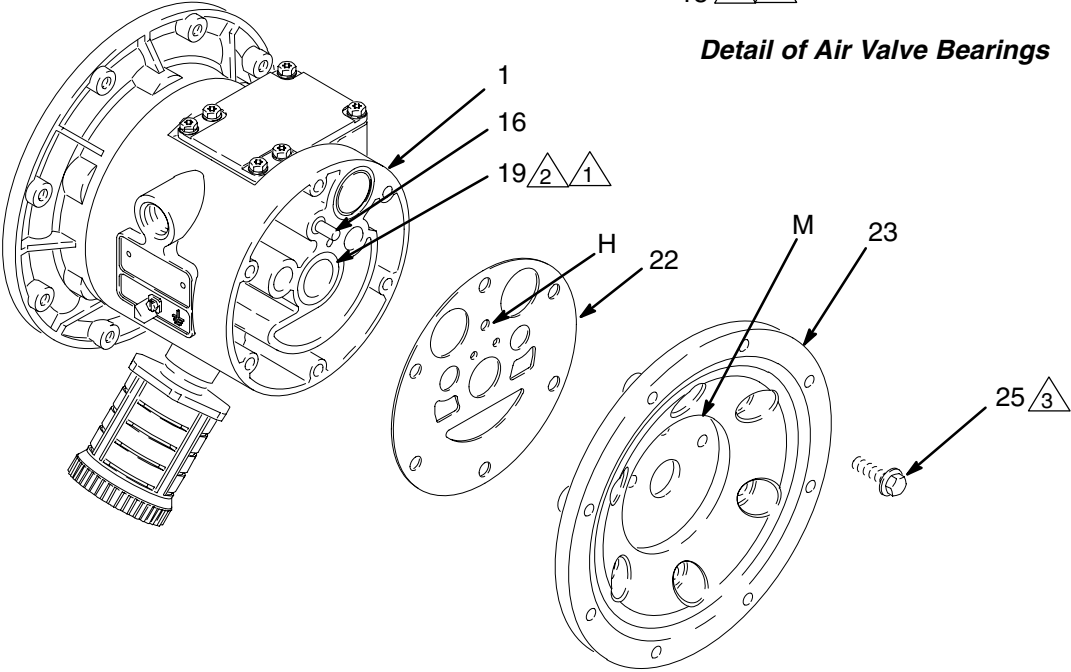

Fig. 15
5. Using a 10 mm socket wrench, remove the screws (25) holding the air covers (23) to the center housing (1). See Fig. 15.
1. If removed, install the shaft u-cup packings (402*) so the lips face **out** of the housing (1).
2. The bearings (12, 15, and 19) are tapered and can only be installed one way. Insert the bearings into the center housing (1), **tapered end first**. Using a press or a block and rubber mallet, press-fit the bearing so it is flush with the surface of the center housing.
4. Align the new air cover gasket (22) so the pilot pin (16) protruding from the center housing (1) fits through the proper hole (H) in the gasket.
5. Align the air cover (23) so the pilot pin (16) fits in the middle hole (M) of the three small holes near the center of the cover. Install the screws (25), handtight. See Fig. 15. Using a 10 mm socket wrench, torque the screws oppositely and evenly to 15–17 N•m.